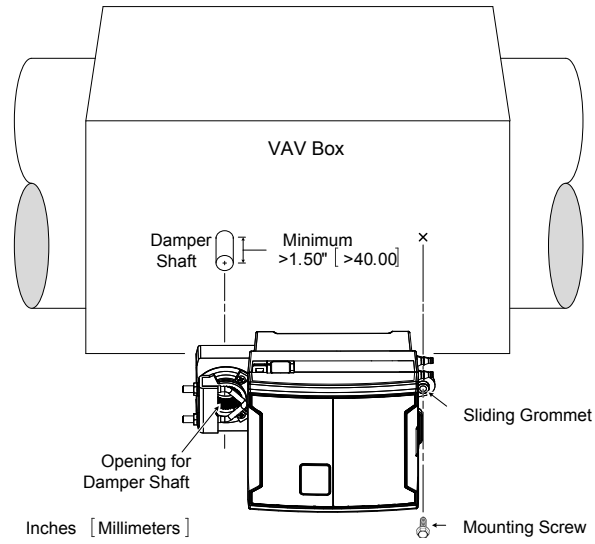

Figure 11: Standard Mounting Method: Mounting a controller on a damper shaft
4. Screw the controller onto the VAV box through the controller's Sliding Grommet. The sliding grommet allows the controller to move back and forth when the VAV box's damper shaft is off center. Ensure to center the grommet along its travel range and ensure that the screw enters the VAV box at a right angle. Using a power screwdriver with a 6" extension (Figure 8), attach the controller to the VAV box with the 1" [25mm] screw provided with the controller (Figure 9) through the controller's sliding grommet as shown in Figure 11. Otherwise, mark the positions for the screw on the VAV box with a punch and then drill a hole into the VAV box. Then attach the controller to the VAV box with the 1" [25mm] screw provided with the controller.